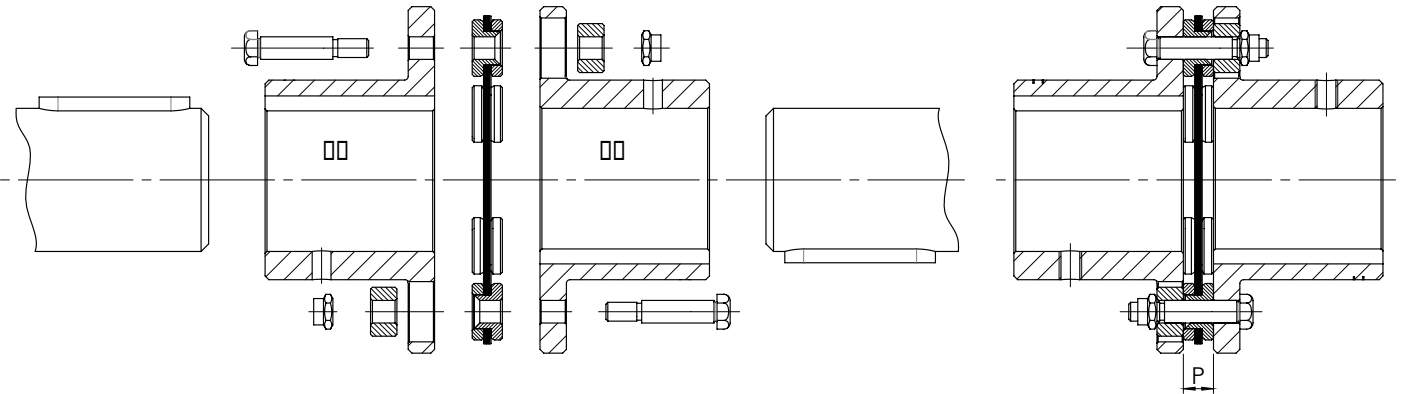

Figure 4-1 - METALDRIVE®: hubs mounting
- Position the two hubs on the motor and driven shaft, with the flange aligned with the end of the shaft (see the FIGURE 4-1)
- Move the motor and the driven machine to get the dimension P (see FIGURE 4-1 and TABLE 4.1)
- Move the motor and the driven machine to get the dimension DBSE (see FIGURE 4-1 and TABLE 4.1)